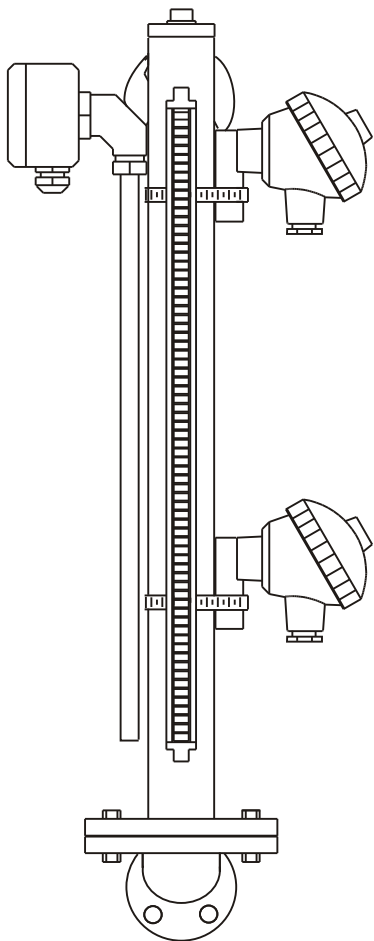
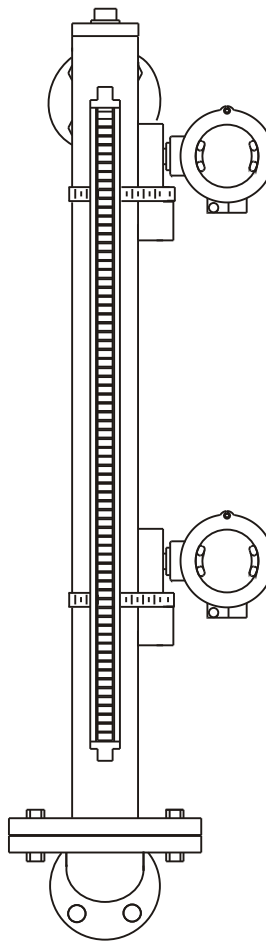
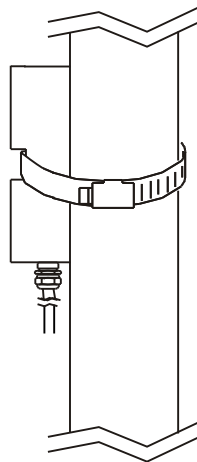
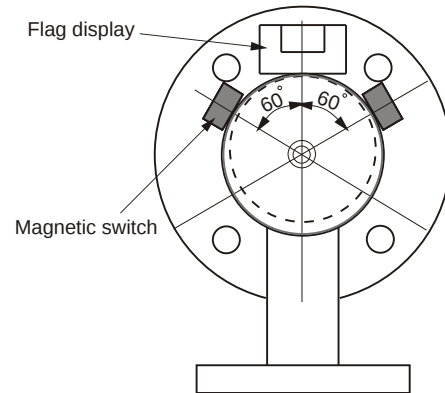

fig. 1
fig. 2
fig. 1A
fig. 2A
6. The magnetic switch (EFB-12□□ & EFB-13□□) is to be fastened on the chamber with a hose clamp. (see fig.1A and page 19 - fig.1, fig.2) Positioning orientation of magnetic switches as fig.2A.